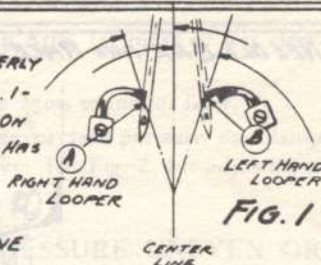

FIG. 1
WHEN ASSEMBLING SECTORS MESH THE TEETH ON SECTOR B WITH RACE NORTH AND SOUTH AS IN FIG. 1 AND #4. SO THAT SECTOR TEETH WILL NOT DISENGAGE GEAR TEETH AT EITHER END OF SWING
THE LOOPERS (A) AND (B) WHEN PROPERLY ADJUSTED WILL ASSUME THE POSITIONS IN FIG. 1 - WITH THEIR POINTS ON CENTER LINE OF NEEDLE ON ALTERNATE STROKES AFTER THE NEEDLE BAR HAS RISEN $\frac{3}{32}$ " FROM ITS LOWEST POSITION.